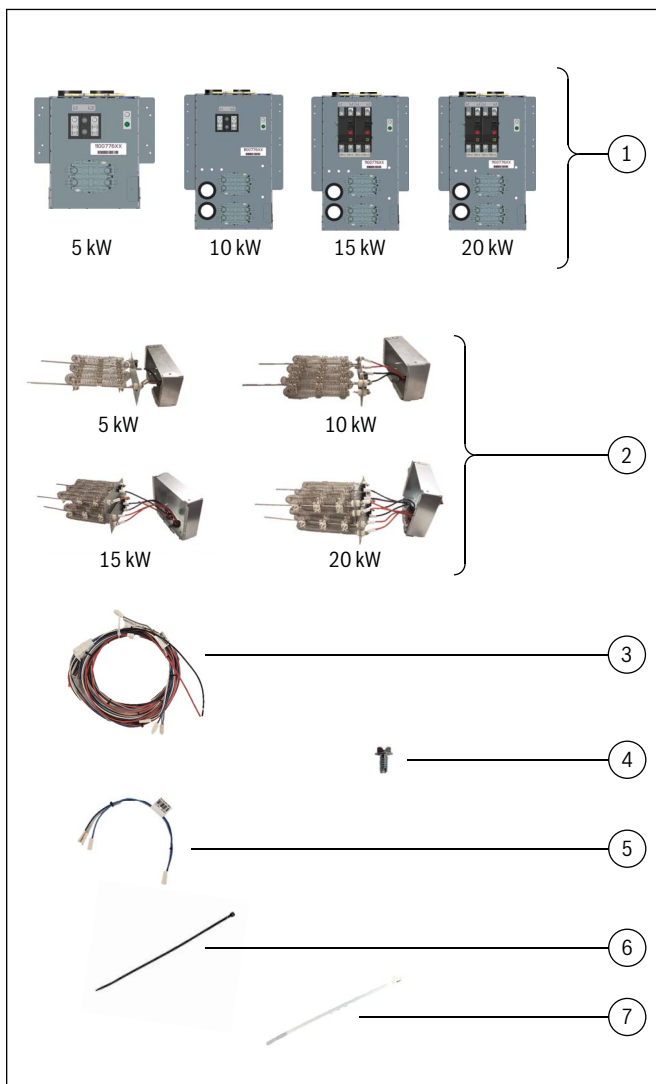

Figure 1 Kit Components
2. Ensure that the heater kit package includes all of the items listed in figure 1.